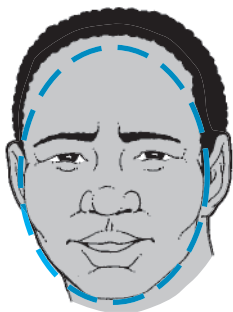

FIGURE 1 | Oval face.
- *Oval:* The oval-shaped face is generally recognized as the ideal shape. Any hairstyle that maintains the oval shape is usually suitable (Figure 1). Try changing the